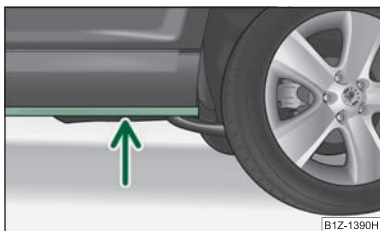

Fig. 117 Crossing bodies of water
- Determine the depth of the water when driving through bodies of water. The water can reach at the maximum the web on the lower sill of the vehicle ⇒ fig. 117.